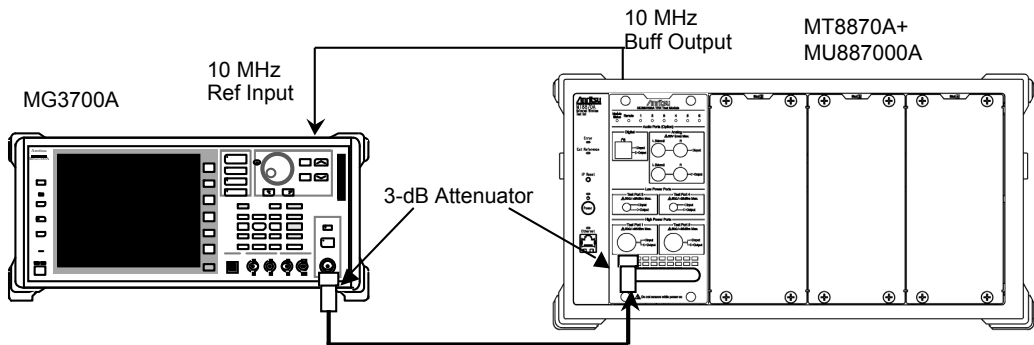

Figure 6.3.8-1 Setup for Measuring Frequency/Modulation measurement
1. Setup the instruments as shown in Figure 6.3.8-1.